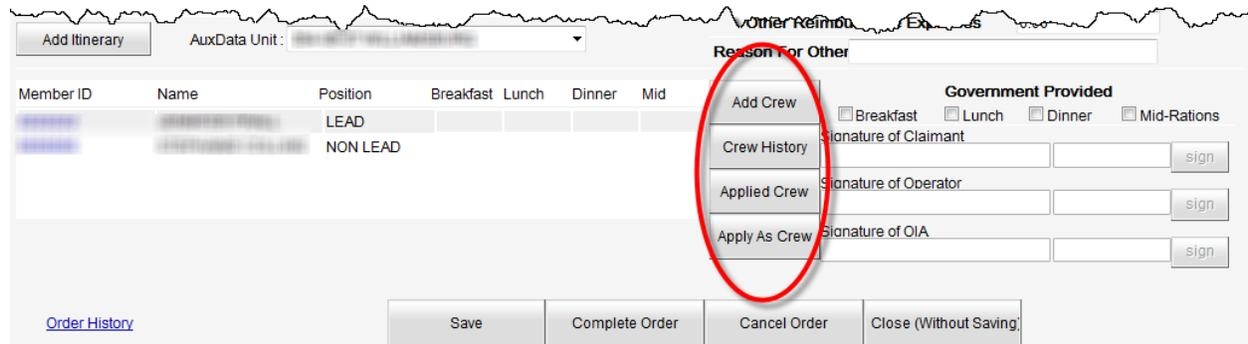

Figure 3-28 Crew Buttons on Patrol Order
1. After selecting the appropriate {approved patrol order coded in green} on the calendar, click the **Add Crew** button on the bottom right of the patrol order, similar to Figure 3-28.
1. After selecting the appropriate *{approved patrol order coded in green}* on the calendar, click the **Crew History** button on the bottom right of the patrol order, similar to Figure 3-28.
After selecting the appropriate *{approved patrol order coded in green}* on the calendar, click the **Applied Crew** button on the bottom right of the patrol order, similar to Figure 3-28.
1. After selecting the appropriate *{patrol order}* on the calendar, click the **Apply as Crew** button on the bottom right of the patrol order, similar to Figure 3-28.